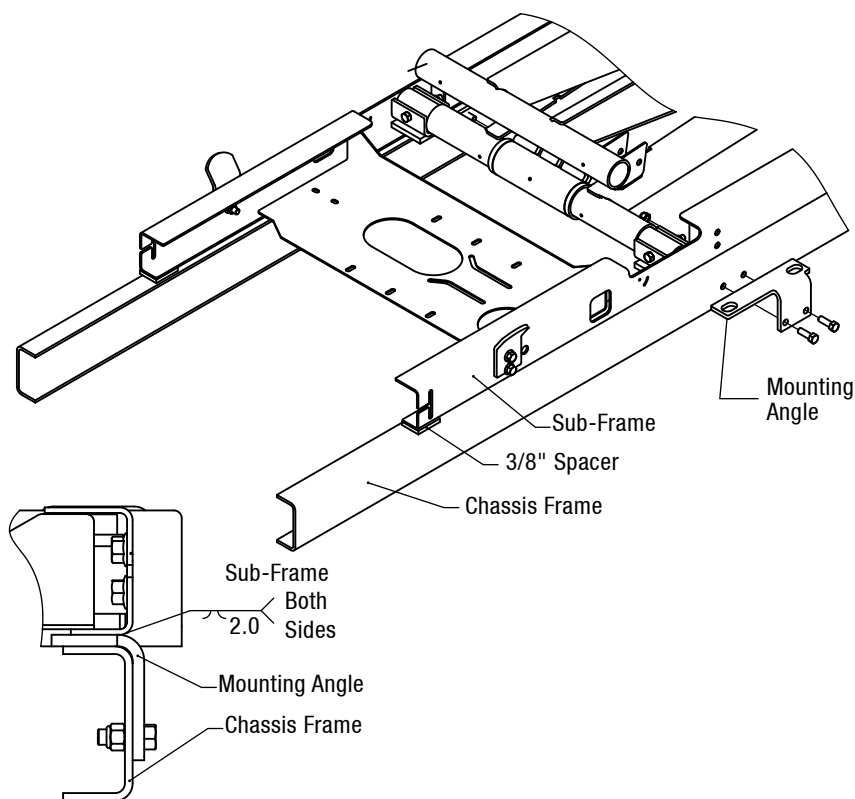

Figure 8: Sub-frame Mounting
3. Secure each mounting angle to the truck frame by drilling two $17/32$ " diameter holes and bolting the mounting angles to the truck frame using two $1/2$ " GR5 bolts and nuts (Figure 8).
4. Weld each mounting angle to the sub-frame rail, keeping within the guidelines shown in Figure 8. Do not weld the mounting angles to the chassis frame.